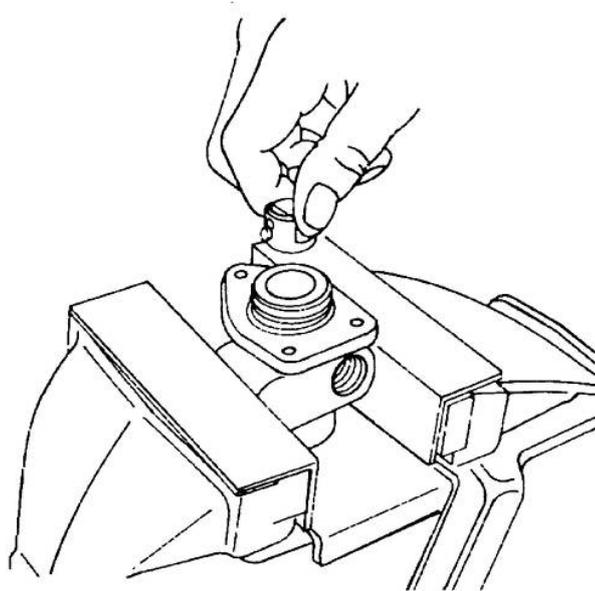

Figure 134 Removal of the Tappet
- f. Clamp the pump in the vice so that the tappet assembly faces upward. Using a screwdriver or a similar device, pry off the snap-ring that retains the tappet and remove the tappet assembly (Figure 134). Remove the push rod.